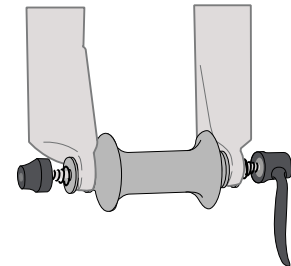

Figure 8. Ensure washers placed correctly.
4. Release the dropout washers (Figure 8). Check to make sure the washers are centered in the dropouts and that the raised portion of each washer is nestled inside the dropout opening (the 'U').